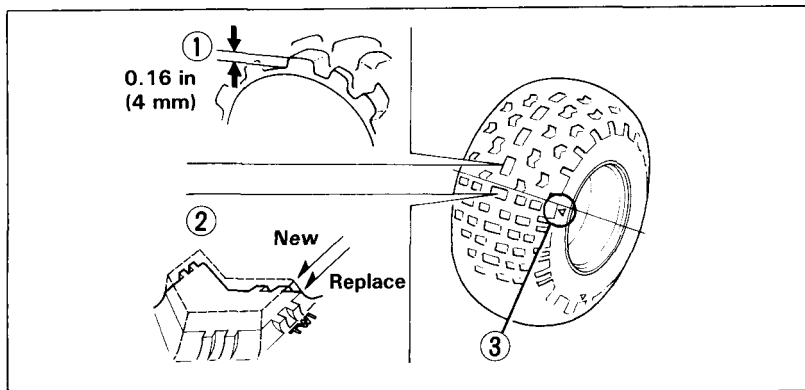

Fig. 4-33
To check the condition of a tire tread, measure the groove depth (1) in the center of the tire, or check the wear indicator (2) as shown in Fig. 4-33. The minimum tread depth is 0.16 in (4 mm). When the tread depth is less than recommended, the tire should be replaced.